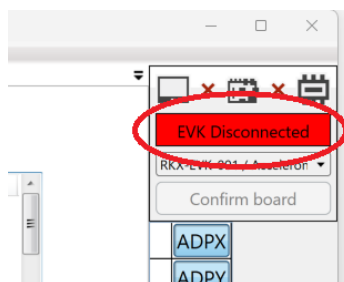

Figure 97: Checking EVK GUI SW connection status.
2. Check the ROHM EVK GUI goes to 'Disconnected' connection status, as shown in Figure 97.